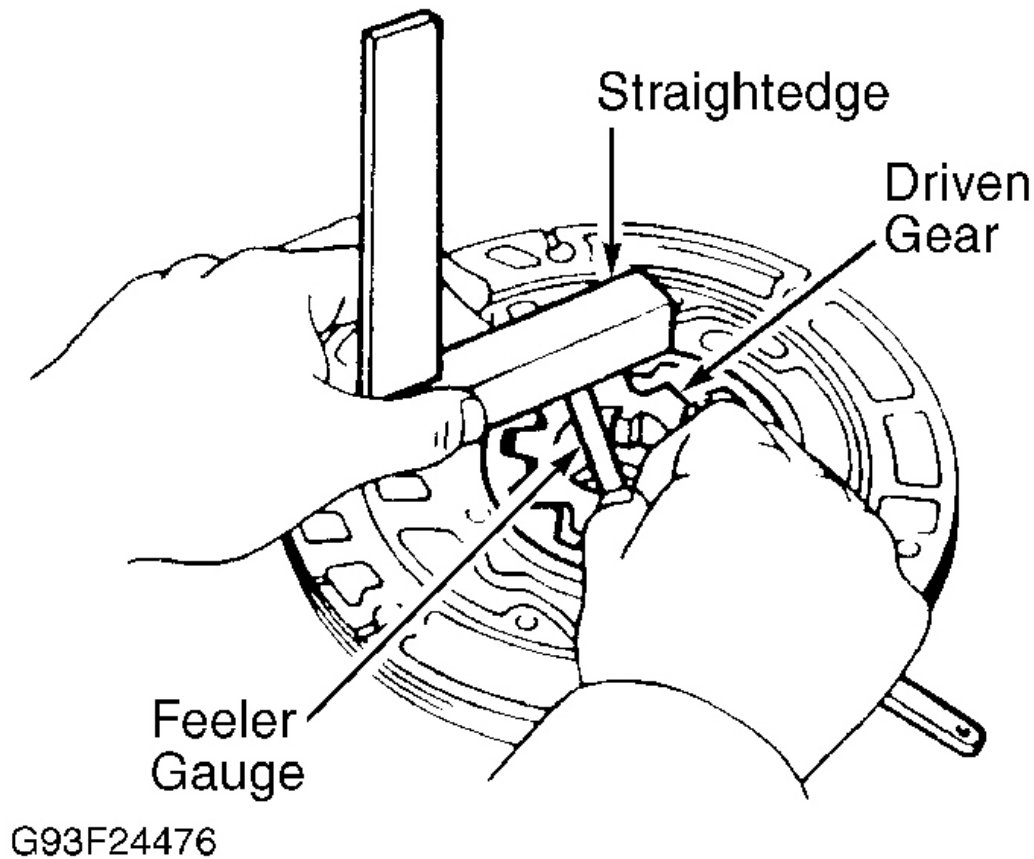

Fig. 20: Checking Oil Pump Gear Side Clearance
3. Using a feeler gauge and straightedge, measure side clearance of both gears. See **Fig. 20** . Replace pump body if clearance is not within specification. See **OIL PUMP CLEARANCE SPECIFICATIONS** table. Drive and driven gears are available in 3 different thicknesses. See **DRIVE & DRIVEN GEAR THICKNESS SPECIFICATIONS** table.